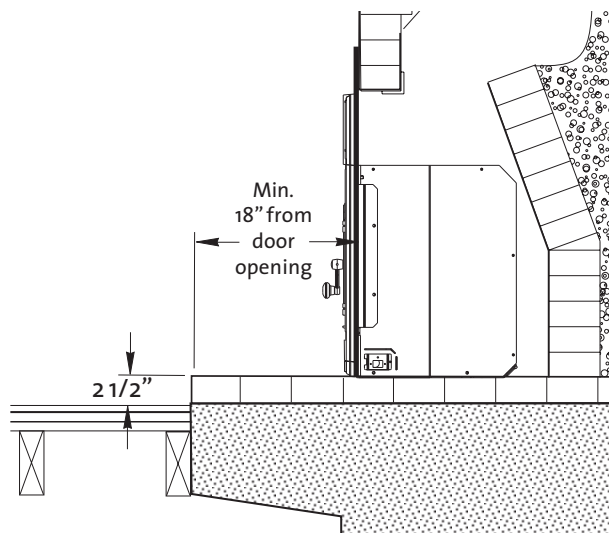

Figure 5. Canada only: Minimum depth with code-approved raised hearth.
- b) it is raised a minimum of 2 1/2" and constructed on noncombustible materials in a code-approved masonry fireplace. See fig. 5.